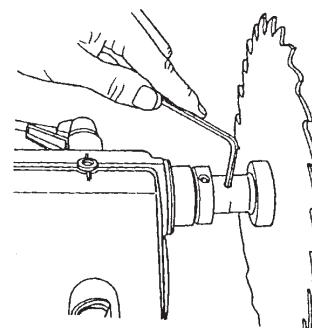

Figure C-27
18. Mount the saw blade on the spindle and align the arbor set screw with the spindle knob's set screw, then use a 5/32" Allen wrench to tighten the arbor set screw, as seen in Figure C-27.